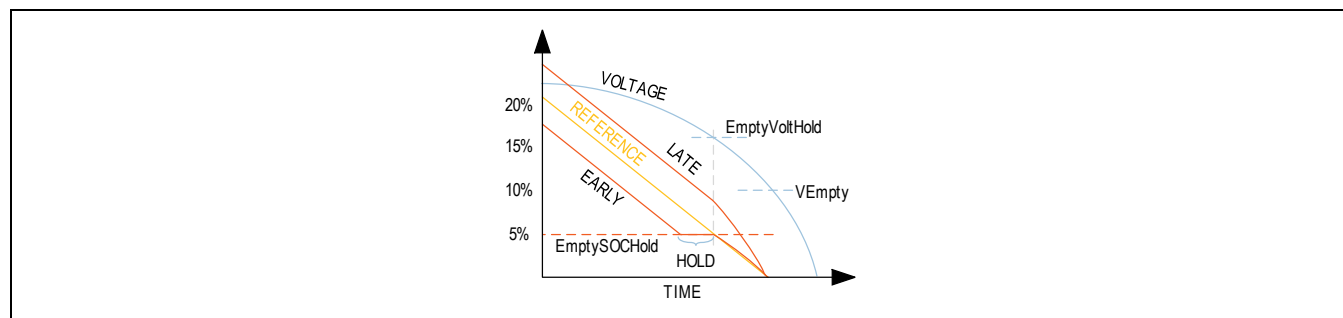

Figure 18. SOC Hold Conceptual Drawing
- Empty Hold.** This feature limits RepSOC to not fall below x% (1% default) until the empty voltage is crossed. This can be useful with operating systems which force system shutdown at a particular battery percentage. A Windows computer, for example, may force the system shutdown or hibernate when the fuel gauge crosses 5%. So setting Empty Hold to 6% can guarantee deeper discharge to a specified voltage level, and thereby often extend runtime. Set desired empty SOC in SOCHold.EmptySOCHold. The MAX77972 holds the SOC until battery voltage drop below Vempty + SOCHold.EmptyVltHold, as shown in Figure 18.